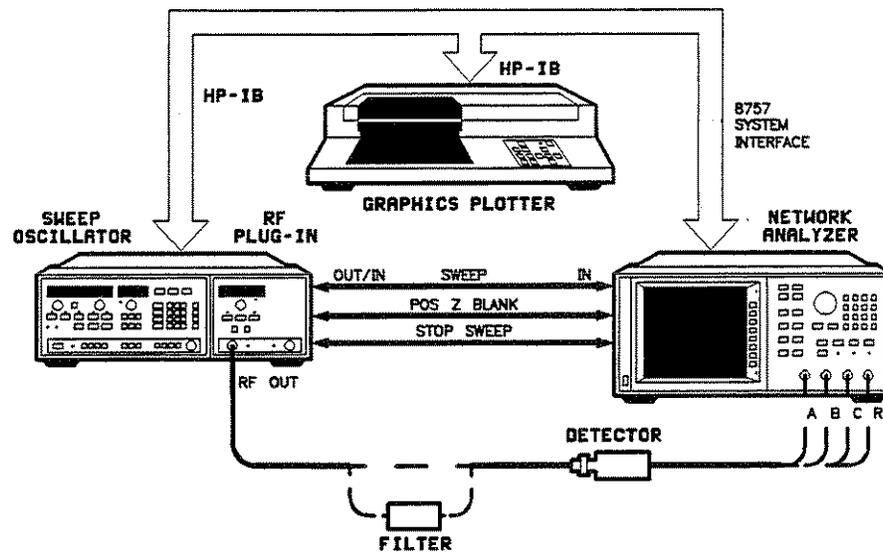

Figure A-1. Operator's Check Equipment Set-up
2. Set up the equipment as shown in Figure A-1, with the detector connected to input A of the analyzer. Connect the detector's RF input to the RF output of the source for a "thru" (0 dB insertion loss) connection. Turn on the instruments and allow 30 minutes warm-up time.